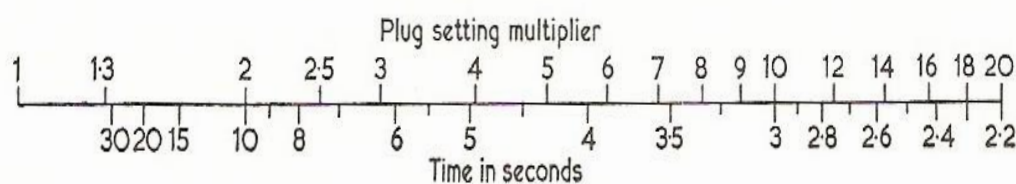

Figure 3
- Alternatively, if the current plug setting is chosen as 125% (6.25 A), the fault current through the relay will be $50/6.25 = 8 \text{ A}$. The graph shows that eight times plug setting to operate in 2.4 s, the time multiplier should be about 0.7. This technique is fine if the required setting falls exactly on the TM curve. However, if the desired setting falls between the curves, it is not easy to estimate the intermediate setting accurately as the scales of the graph are log/log. The following procedure is therefore recommended (see Figure 3).